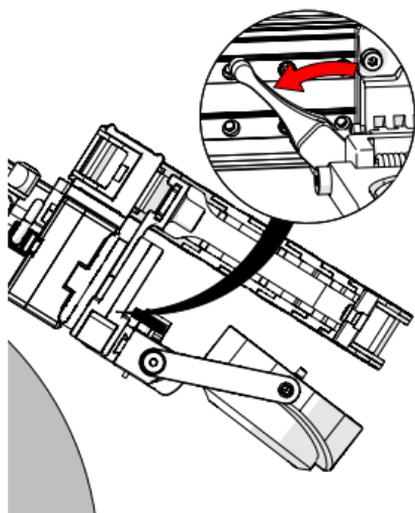

Fig. 133 - Adjust raster arm pivot nose
6. Release the raster arm pivot nose lever (Fig. 133).